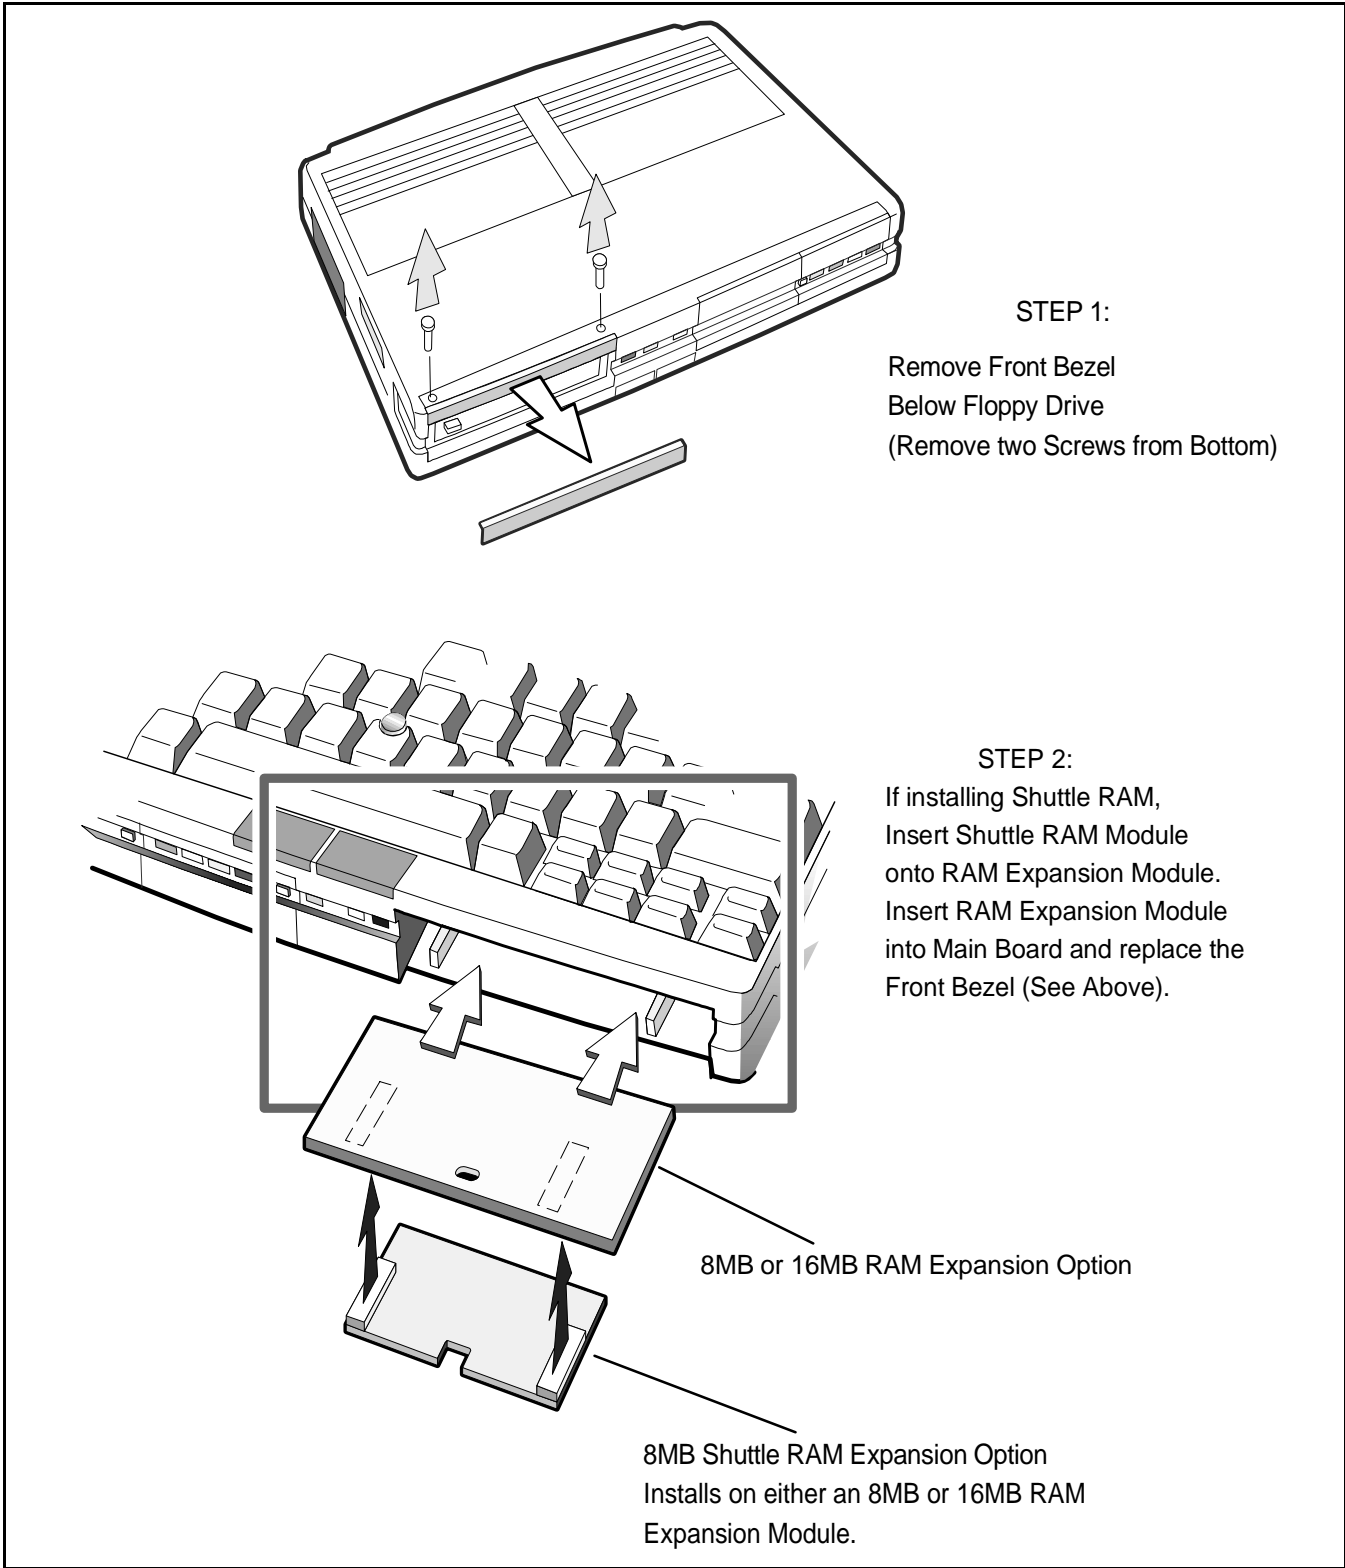

Figure 2-3 Installing RAM Expansion Module (Option)
4. If installing a shuttle RAM expansion module (Shuttle Module), plug the shuttle module onto the first module as shown in Figure 2-3. Otherwise, skip this step.
6. Remove the holding screws and remove the floppy bezel from the right front of the notebook (area around the floppy drive as shown in Figure 2-3).